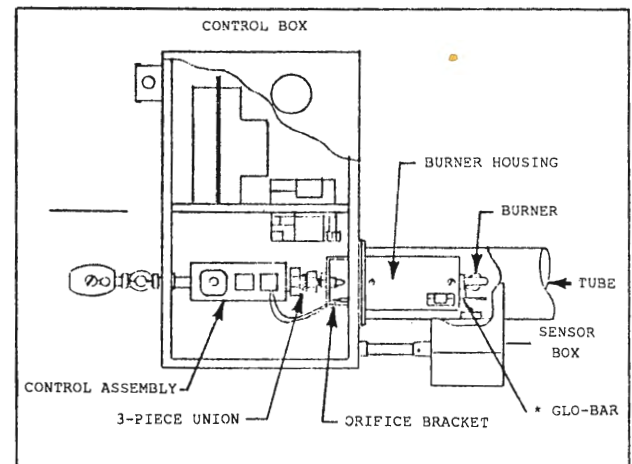

Figure 5-1
2. Remove cover (A) from control box (See Figure 5-1).